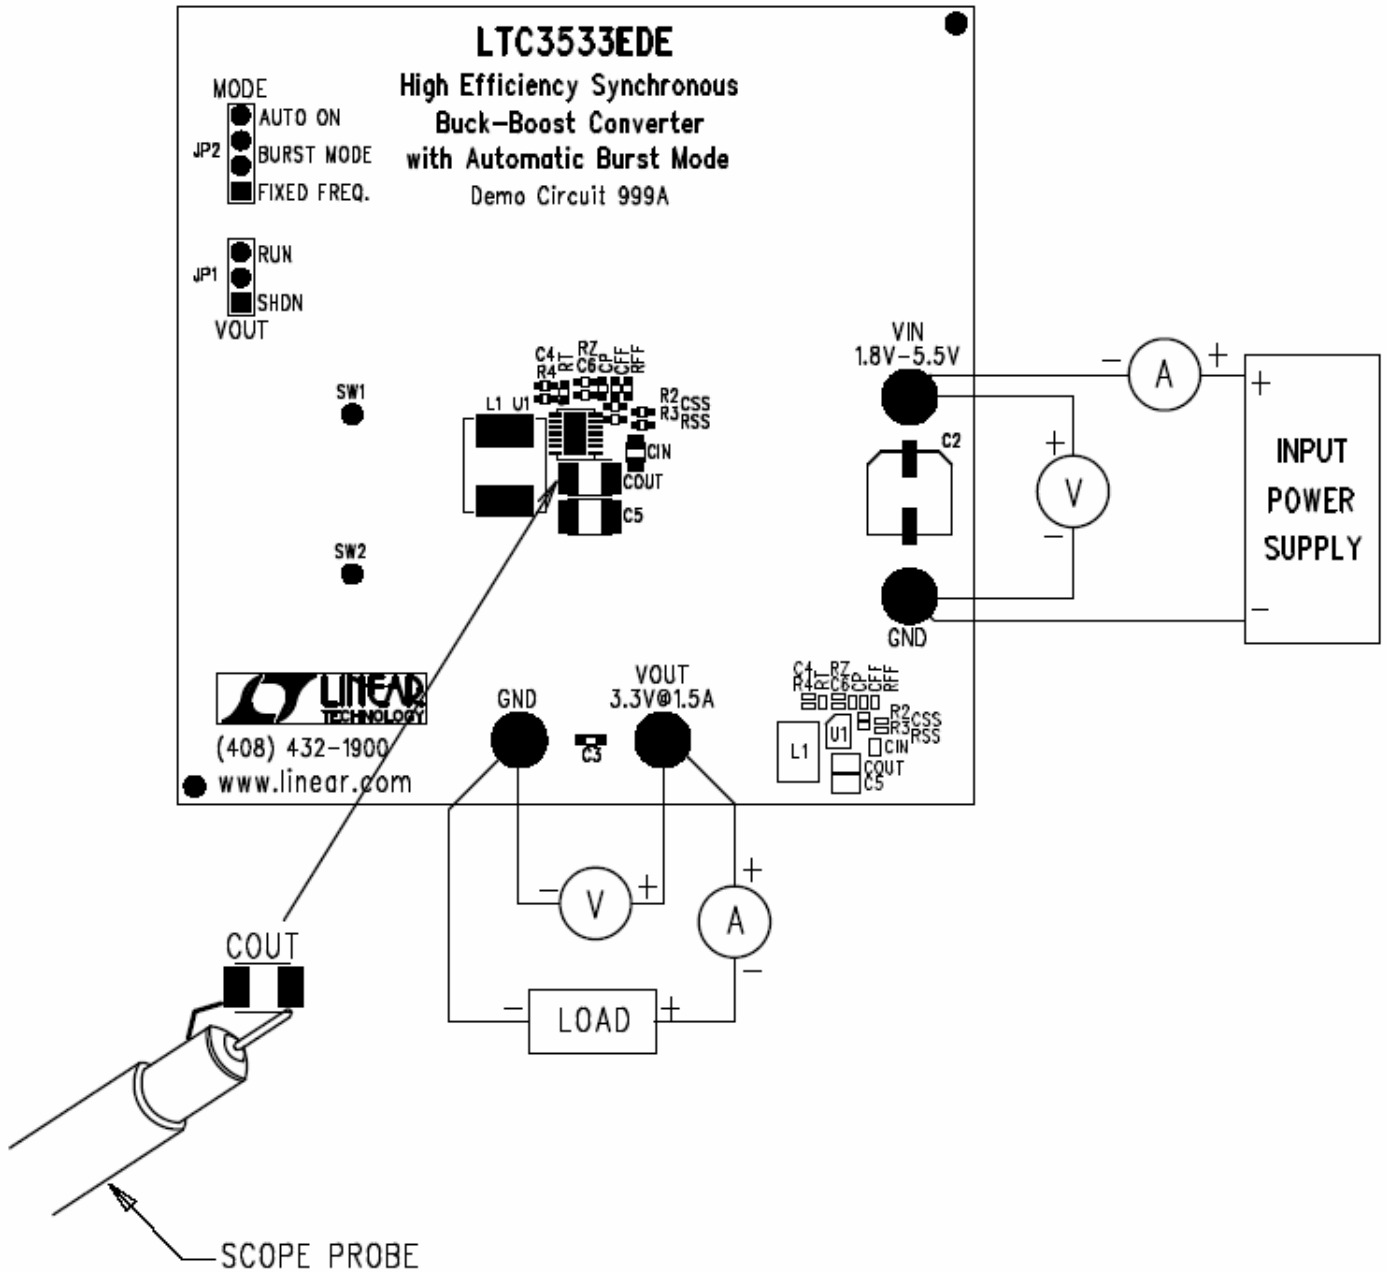

Figure 1. Proper Measurement Equipment Setup
Demonstration circuit 999 is easy to set up to evaluate the performance of the LTC3533. Refer to Figure 1 for proper measurement equipment setup and follow the procedure below:
**NOTE.** When measuring the output voltage ripple, care must be taken to avoid a long ground lead on the oscilloscope probe. Measure the output voltage ripple by touching the probe tip and ground ring directly across the last output capacitor (COUT) as shown in Figure 1.